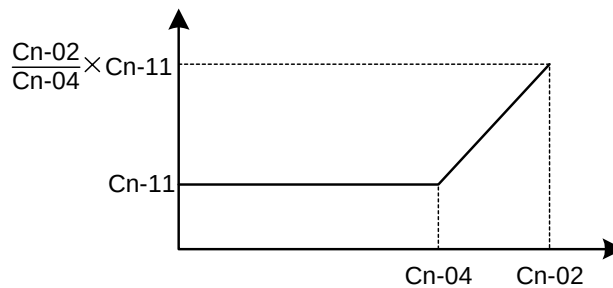

Figure 20 Slip Compensation Limit
- The setting is shown in Figure 20 in the constant torque and constant output range. If setting Cn-11 is zero, no slip compensation is used.